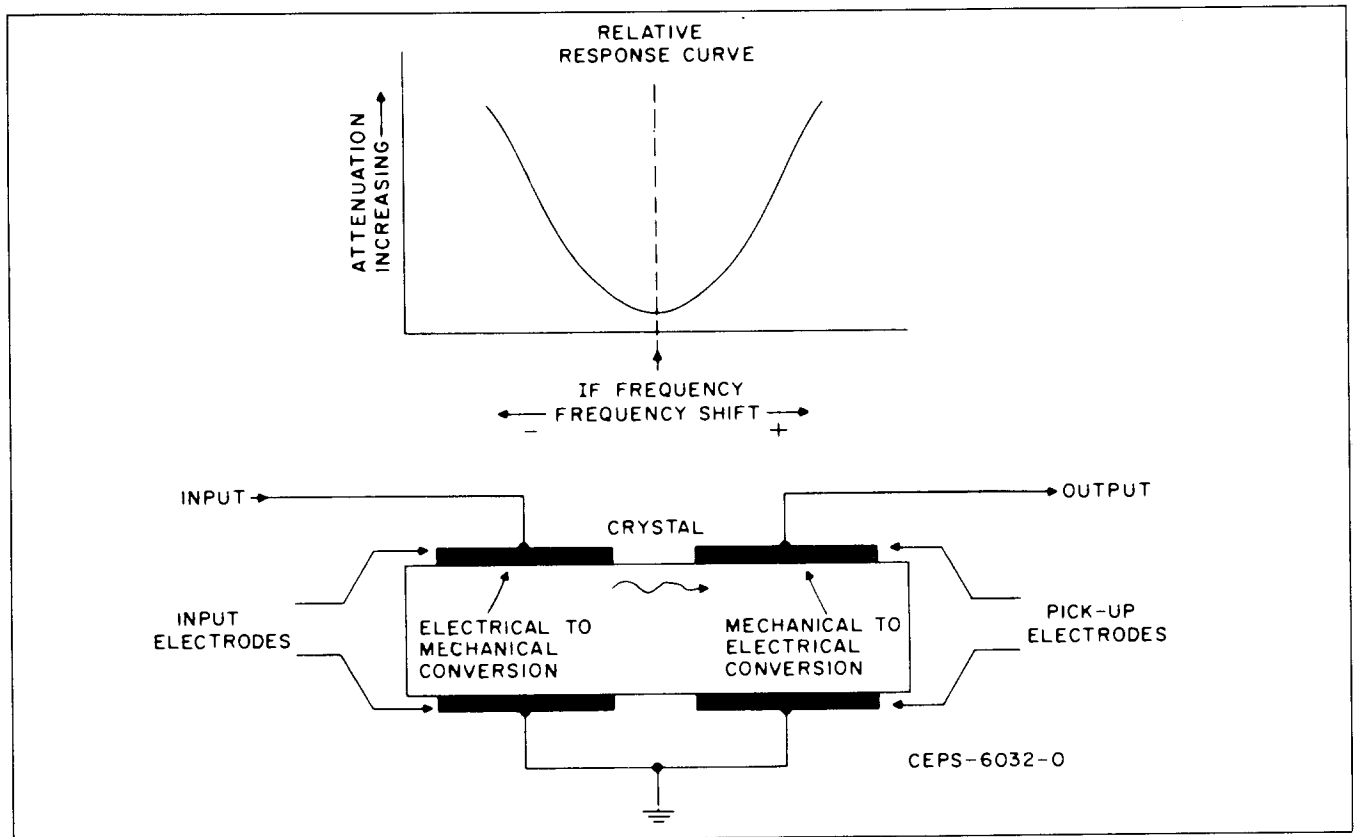

Figure 1. Simplified Piezoelectric Coupling Diagram
**2.4.2** Refer to Figure 1. The high "Q" of the crystals create steep skirts which result in excellent on-channel intelligibility and off-channel signal rejection. The i-f circuitry requires no tuning and makes extensive use of shielding.